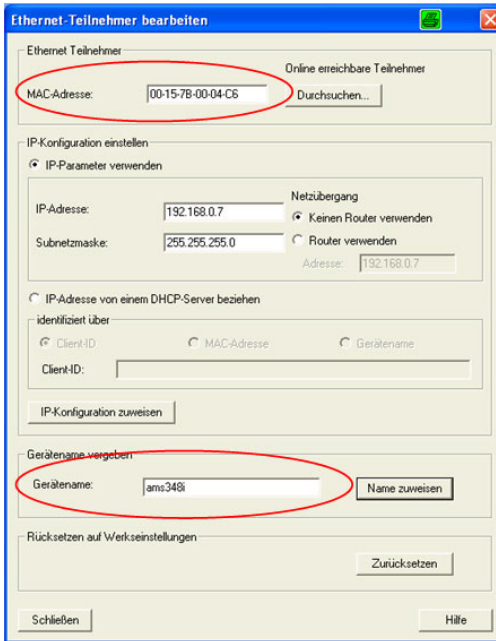

Figure 9.11: Linking of the device name to the MAC ID of the participant
- Assignment of MAC address - IP address -individual device name (see figure 9.11)